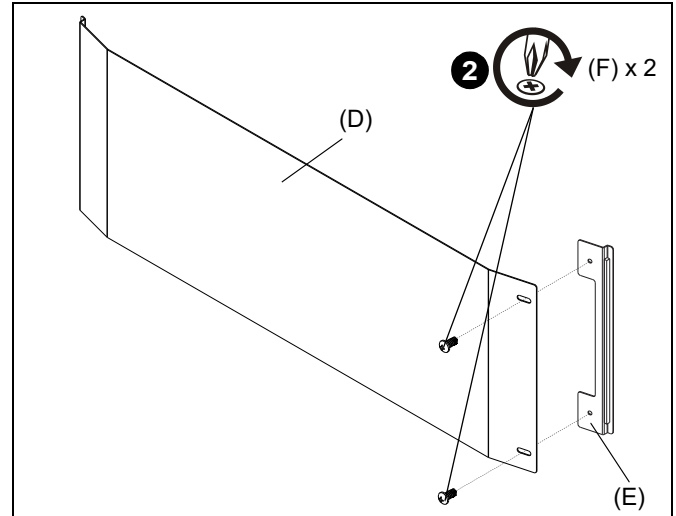

Figure 9
2. Use two #10-24 x 3/8" Phillips tapping screws (F) to secure dual screen cover to slide bracket (E). (See Figure 9)